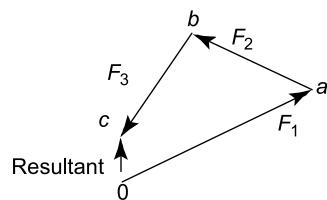

Figure 4.13
- Draw $0a$ to scale to represent force F_1 in both magnitude and direction (see Figure 4.13)
- The resultant vector is given by length $0c$ in Figure 4.13. The direction of resultant $0c$ is from where we started, i.e. point 0, to where we finished, i.e. point c . When acting by itself, the resultant force, given by $0c$, has the same effect on the point as forces F_1 , F_2 and F_3 have when acting together. The resulting vector diagram of Figure 4.13 is called the **polygon of forces**.